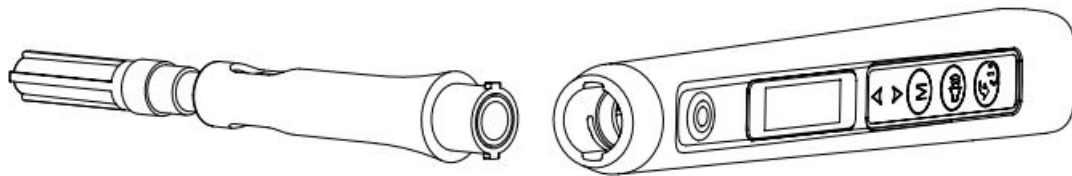
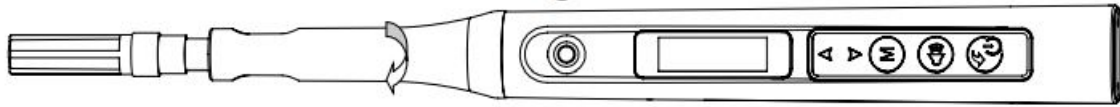

Figure 3
Figure 4
- Align the cartridge holder with the groove in the front hole of the handpiece, and then push it to the end [Figure 3], after the cartridge holder is pushed in to the end, turn the cartridge holder clockwise to lock the boss and the groove structure of the handpiece [Figure 4]. Gently pull the cartridge holder out to confirm that the cartridge holder is firmly installed.